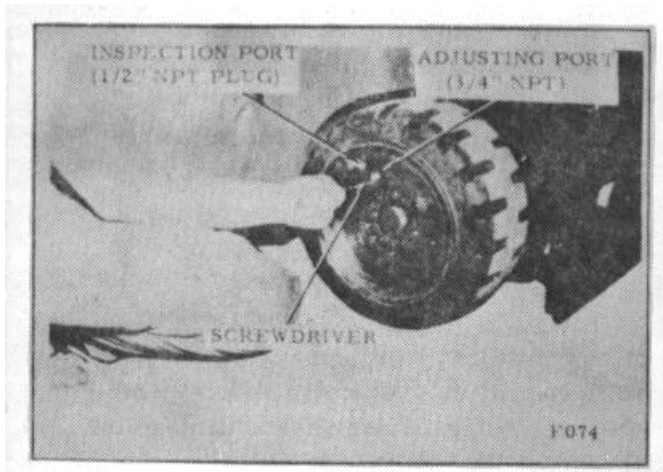

Figure 6.
3. Using a large screw driver, tighten an adjusting cam; then, loosen it just enough to allow the wheel to turn. (Fig. 6) A slight drag is permissible. Adjust the remaining cams in the same manner.
There are two cylinders on each truck. One in each brake assembly. (Fig. 6) Their purpose is to change hydraulic flow and pressure to the mechanical equivalents.